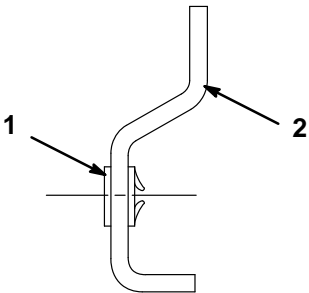

Figure 2
- B. Install the speed nuts on each of the mounting brackets as shown in Fig. 2.